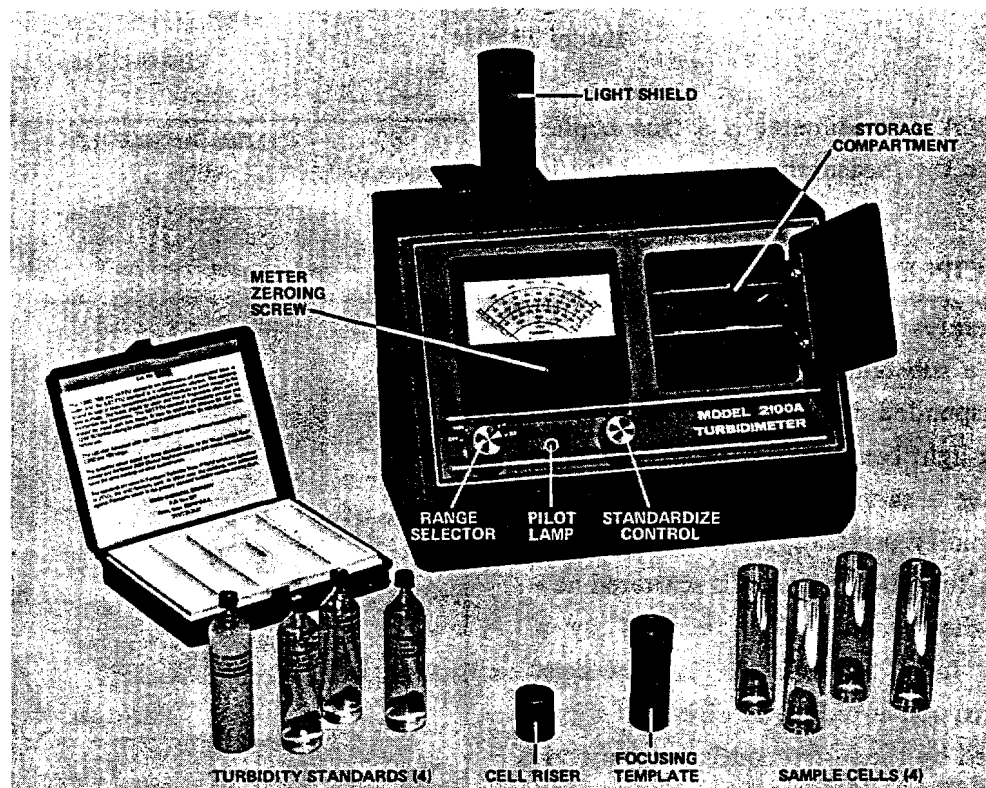

FIGURE 2
The turbidimeter is furnished with four sample cells (see Figure 2) which should be maintained in a clean condition. The instrument is sensitive to fingerprints or dirt, particularly in the 0 - 1 or 0 - 0.2 NTU ranges. Before each use, clean all sample cells, inside and out, with a good soap or other cleaning solution and rinse in demineralized water. Wipe the outside of the cell with a lens tissue or towel that will not leave an oil film.
2. Before turning the instrument on, note whether the meter needle is at the zero point. If it is not, zero the instrument by turning the small screw located on the meter. See Figure 2.